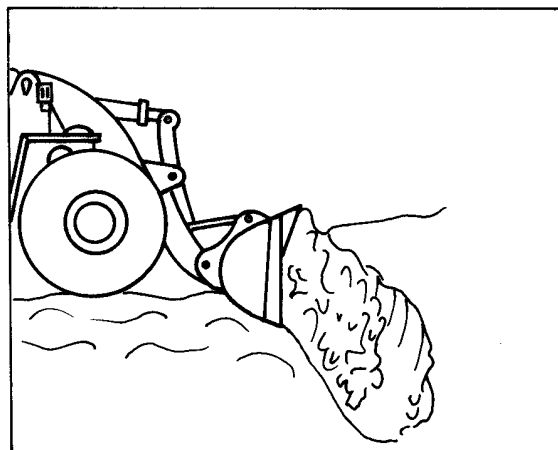

Fig. 4.52. Filling an Excavation
1. When digging or excavating lower the bucket to the ground. Adjust the angle of the cutting edge when the machine moves forward (Fig. 4.52). Change inclination of the angle of the cutting edge and cutting depth using the boom and bucket control levers depending on bucket filling. Establish the parameters to obtain the best bucket filling. When the bucket is full, roll it back and raise it clear off the ground and carry the load to the desired dump area.
Clearing an excavation (Fig. 4.52) may be performed with the bucket partly in the dump position by disposing of the material carried in the bucket.